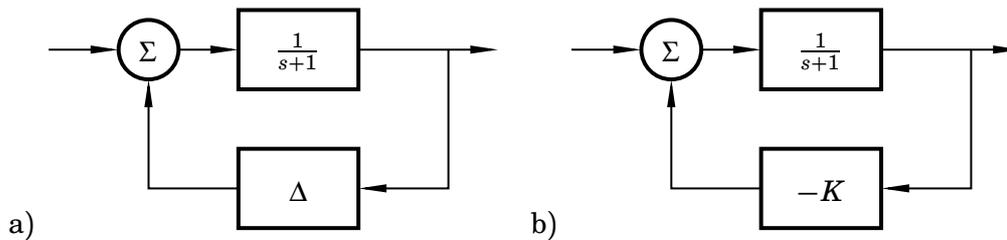

Figure 3.1
- 3.1 a. Analyze the stability of the system to the left in Figure 3.1 using the small gain theorem.
- b. Analyze how the stability of the system to the right in Figure 3.1 depends on the feedback gain K . If you get different results from a, explain why!